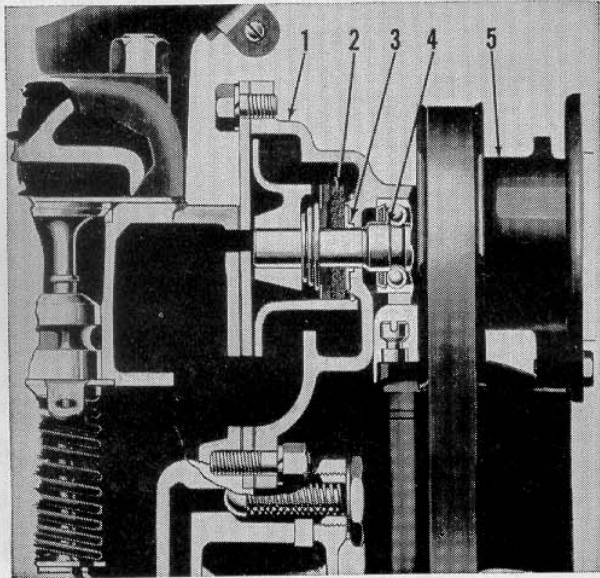

Fig. FO39—Water pump cross sectional view as used on models 2N-9N.
47. To disassemble pump, remove back cover plate and press fan pulley (5—Fig. FO39) off shaft and bearing assembly (4) using a suitable puller. Remove bearing retainer snap ring from front of pump body and press shaft and bearing assembly forward and out of impeller and impeller pump